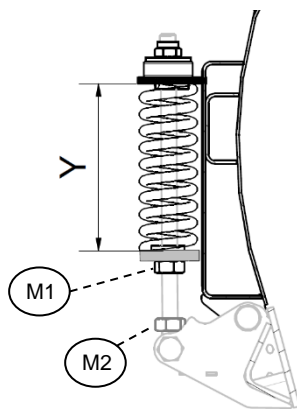

Figure 20
- 2) Tighten nut M1 upwards two turns at a time and test operate. Repeat until the tension is just right – see Figure 20
- 5) Tighten nut M2 downwards – see Figure 20
- 6) Tighten nut M1 downwards two turns at a time and test operate. Repeat until the tension is just right – see Figure 20